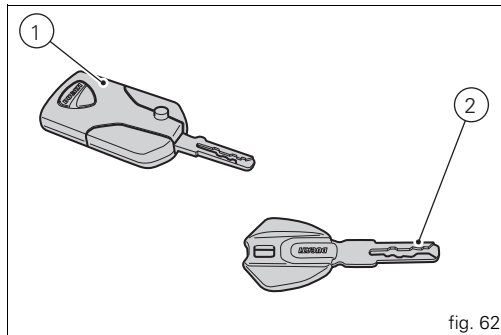

fig. 62
### Keys (fig. 62)
- 1 active key (1, fig. 62)
- 1 passive key (2, fig. 62)
Do not ride with the key (1 or 2, fig. 62) inserted in the lock of the tank cap or in the seat lock as it could come out and represent a potential danger. Furthermore, if bumped, the key mechanism and the integrated circuit could be damaged.